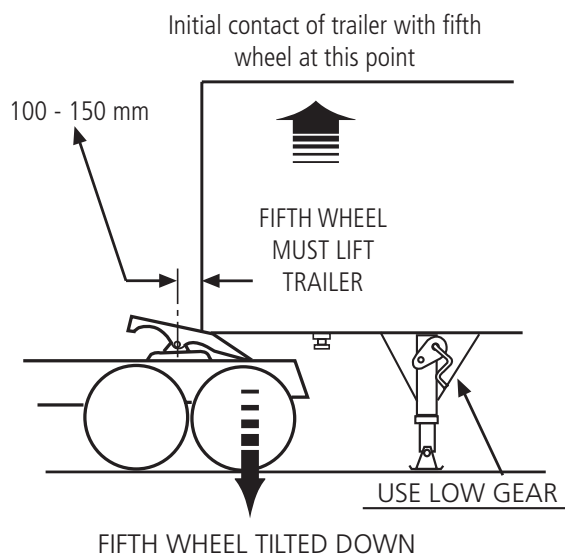

FIGURE 2
4. Make sure the fifth wheel ramps are tilted down as shown in **Figure 2**.